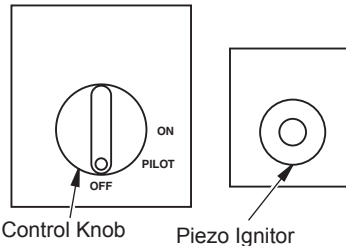

Figure 27 - Control Knob In The OFF Position
- Wait five (5) minutes to clear out any gas. Then smell for gas, including near the floor. If you smell gas, STOP! Follow “B” in the safety information, page 18. If you don’t smell gas, go to the next step.
- Turn control knob counterclockwise ↻ to the PILOT position. Press in control knob for five (5) seconds (see Figure 27).
- With control knob pressed in, press and release ignitor button (see Figure 27). This will light pilot. The pilot is attached to the front burner. If needed, keep pressing ignitor button until pilot lights.